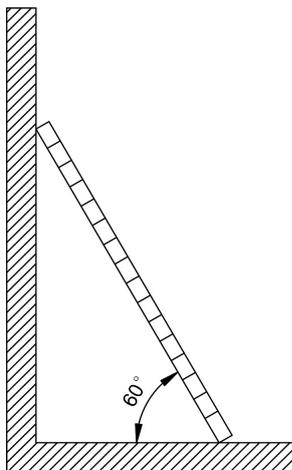

Figure 2-1 Slant Angle of the Ladder
- ◆ The ladder should be placed on a stable ground. The suitable slant angle of the ladder ranges from  $60^{\circ}$  to  $70^{\circ}$  as shown in Figure 2-1.